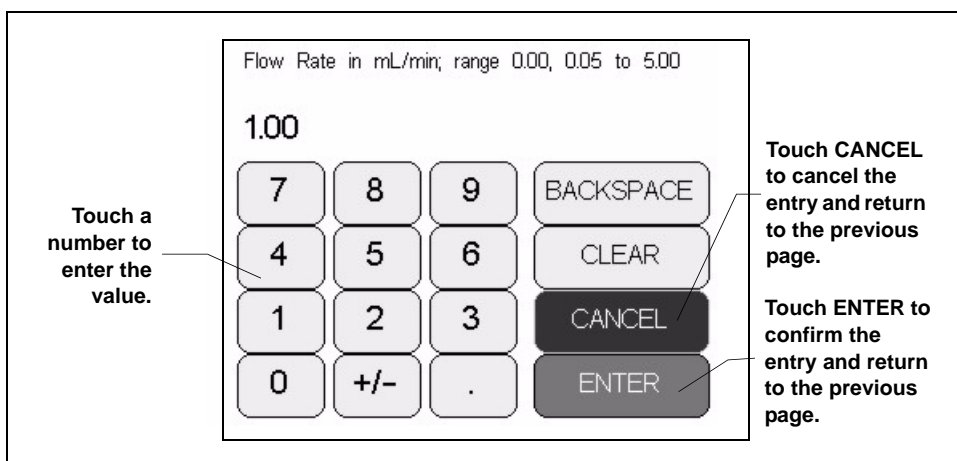

Figure B-2. Number Keypad
- Touching an edit field (for example, ) opens a page with a number keypad (see Figure B-2). Use the keypad to enter the desired numerical value for the field and then touch the **ENTER** button.